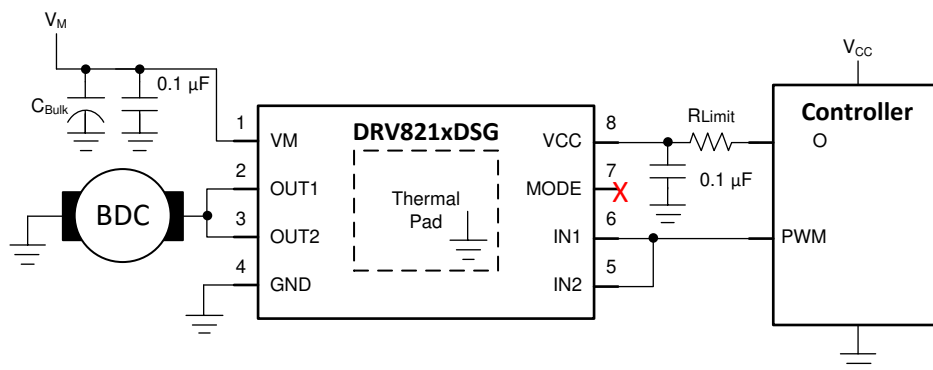
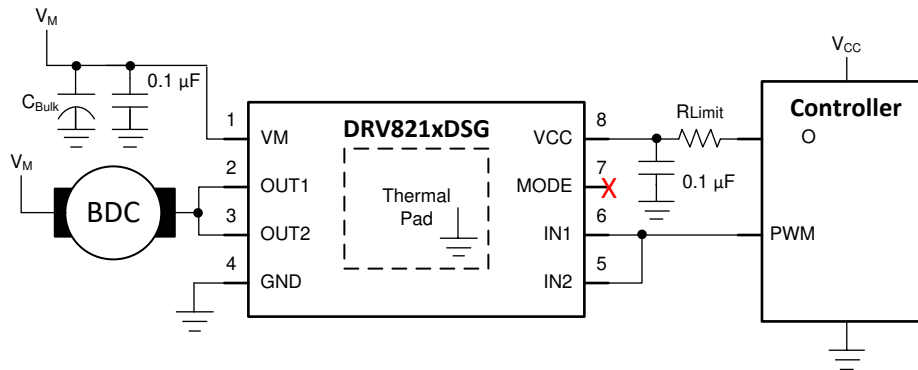

Figure 6-3. Half-bridge mode used as a high-side driver with outputs paralleled
Figure 6-4. Half-bridge mode used as a low-side driver with outputs paralleled
3. Short OUT1 and OUT2 at connector J3 with an unexposed small wire or short the OUT1 and OUT2 test points with a small cable with clips. Make sure the wire is low resistance and can support at minimum 4-A continuous peak current. Connect one end of the motor or desired load on either OUT1 or OUT2 on connector J3 and the other end on either VM (for low-side driving) or GND (for high-side driving). See Figure 6-3 and Figure 6-4 for a block diagram.